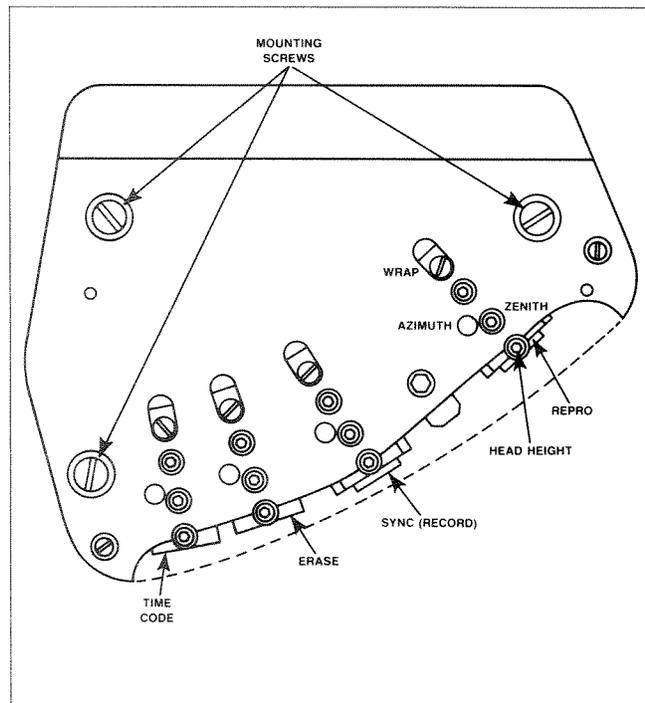

Figure 6-12. Headstack Adjustment Screws
STEP 1 Turn the height adjustment screw (refer to Figure 6-12) clockwise to raise the head or counter clockwise to lower the head.